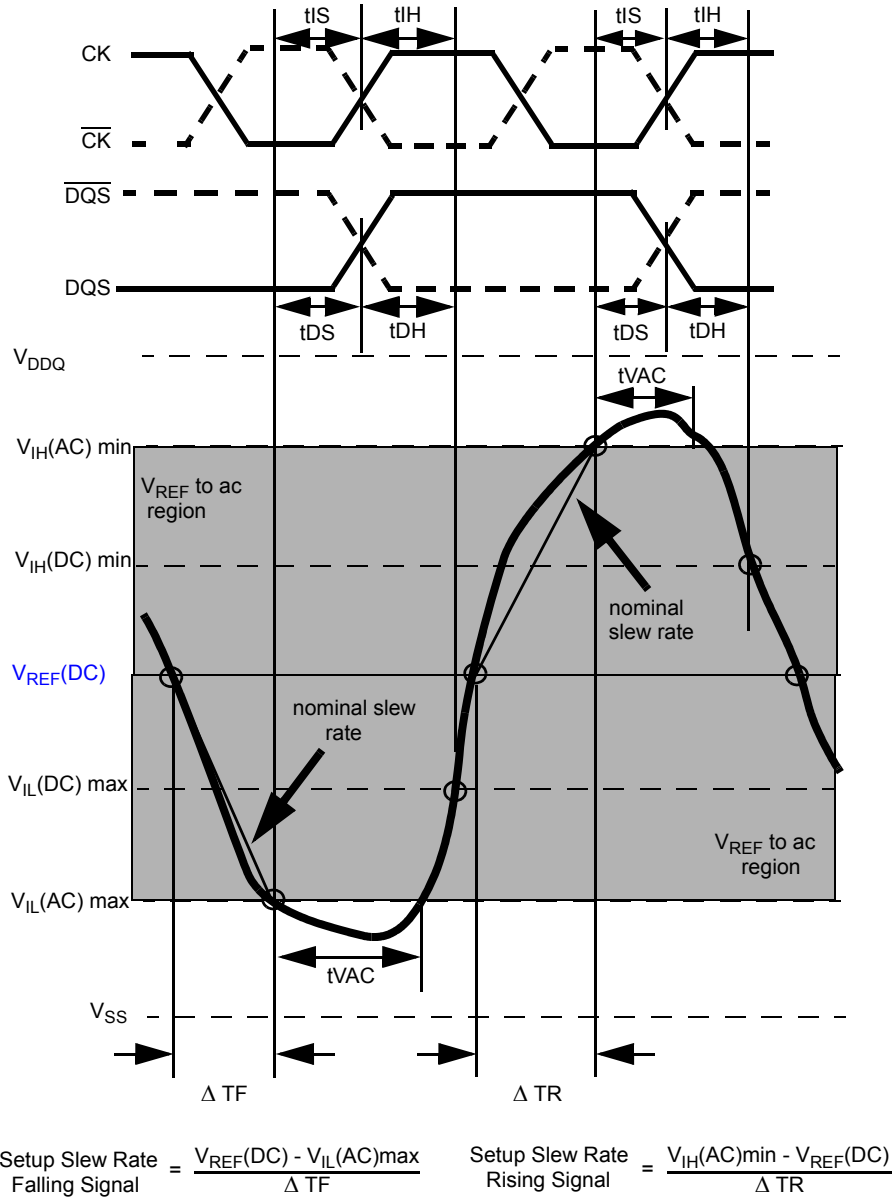

Figure 22. Illustration of nominal slew rate and t_{VAC} for setup time t_{DS} (for DQ with respect to strobe) and t_{IS} (for ADD/CMD with respect to clock).
Example: tIS (total setup time) = tIS(base) + ΔtIS Setup (tIS) nominal slew rate for a rising signal is defined as the slew rate between the last crossing of V_{REF}(DC) and the first crossing of V_{IH}(AC)min. Setup (tIS) nominal slew rate for a falling signal is defined as the slew rate between the last crossing of V_{REF}(DC) and the first crossing of V_{IL}(AC)max. If the actual signal is always earlier than the nominal slew rate line between shaded 'V_{REF}(DC) to ac region', use nominal slew rate for derating value (see Figure 22). If the actual signal is later than the nominal slew rate line anywhere between shaded 'V_{REF}(DC) to ac region', the slew rate of a tangent line to the actual signal from the ac level to dc level is used for derating value (see Figure 24).